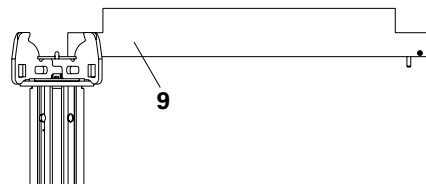

Fig. A5.03
- to the Prophead SSK in a transverse direction. (Fig. A5.03)